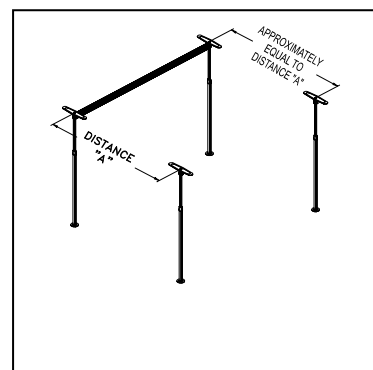

Figure 39
22. Measure the distance between the two posts that are installed and where you will need to install the second set of posts (see Figure 39).